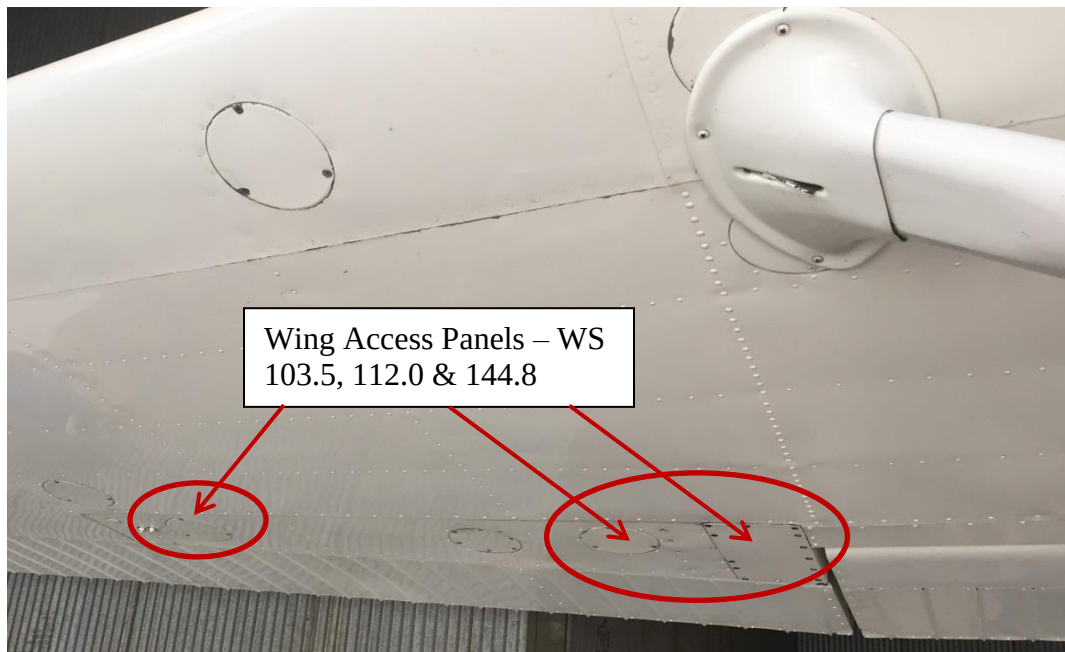

FIGURE 2-1 ROLL SERVO ACCESS PANELS
1. Remove RH wing inspection panels located at WS 103.5, 112.0, and 144.8, Refer to Figure 2-1.